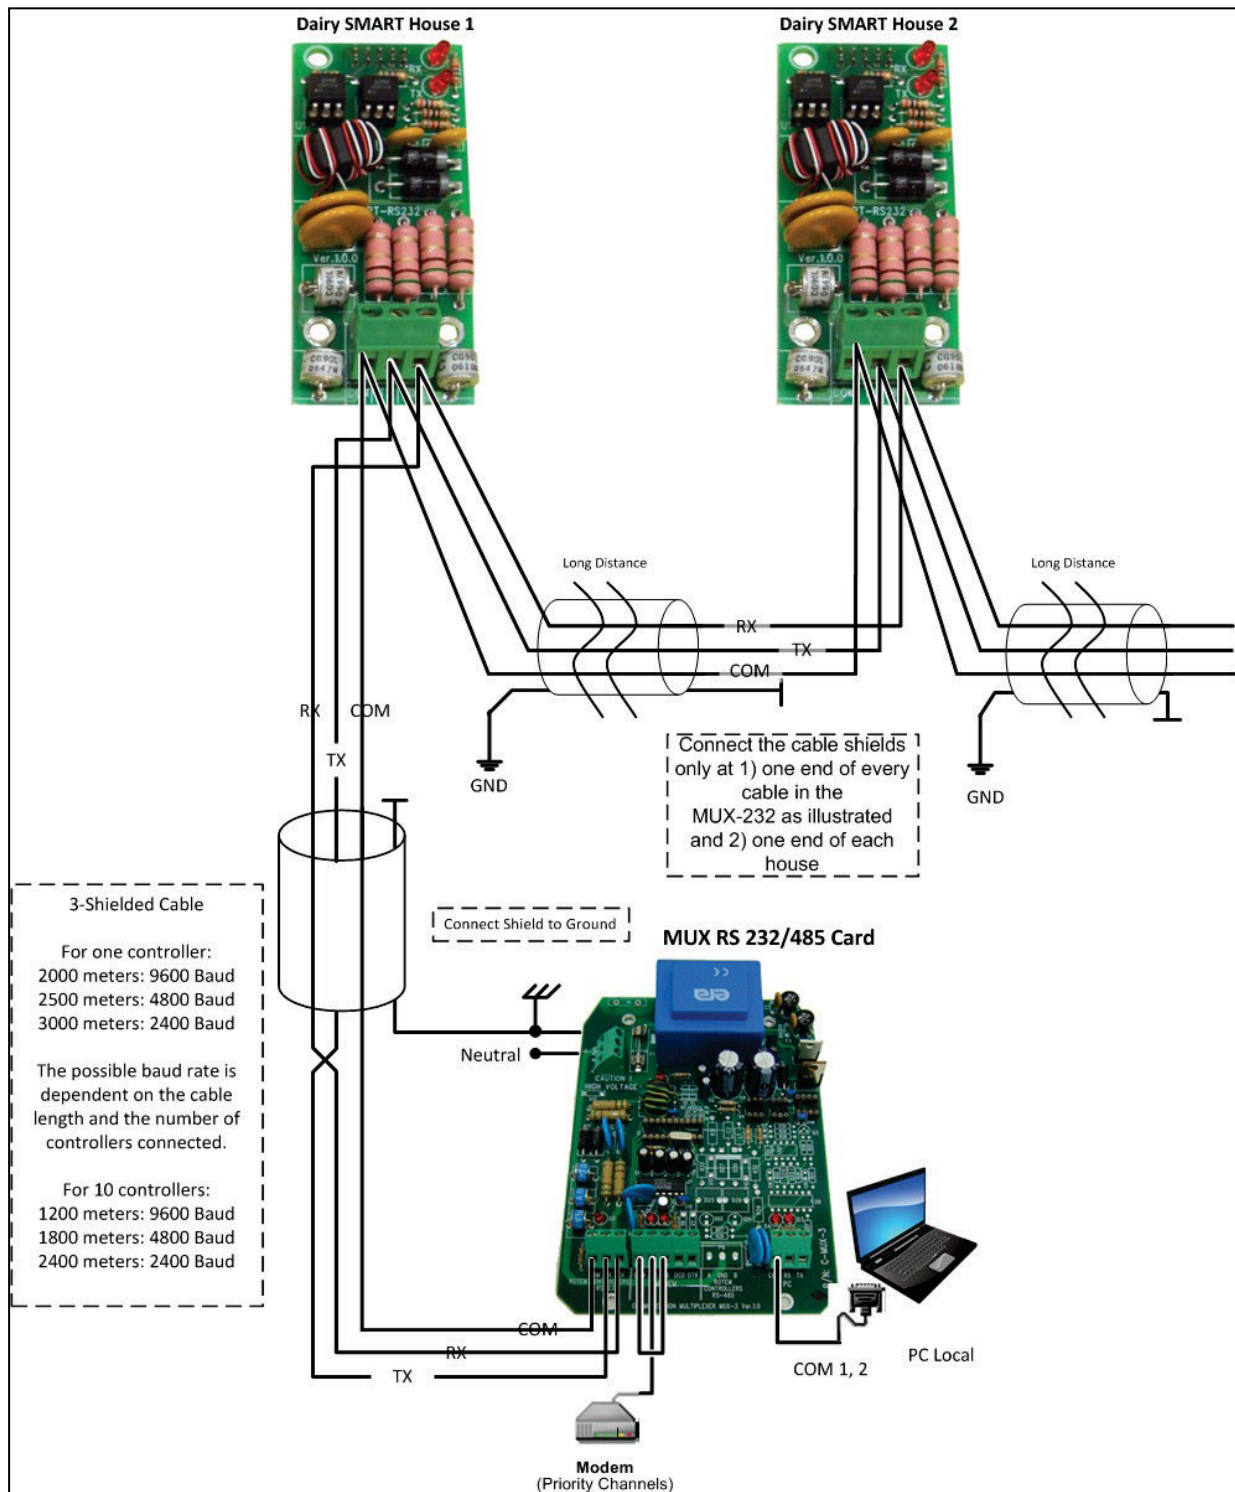
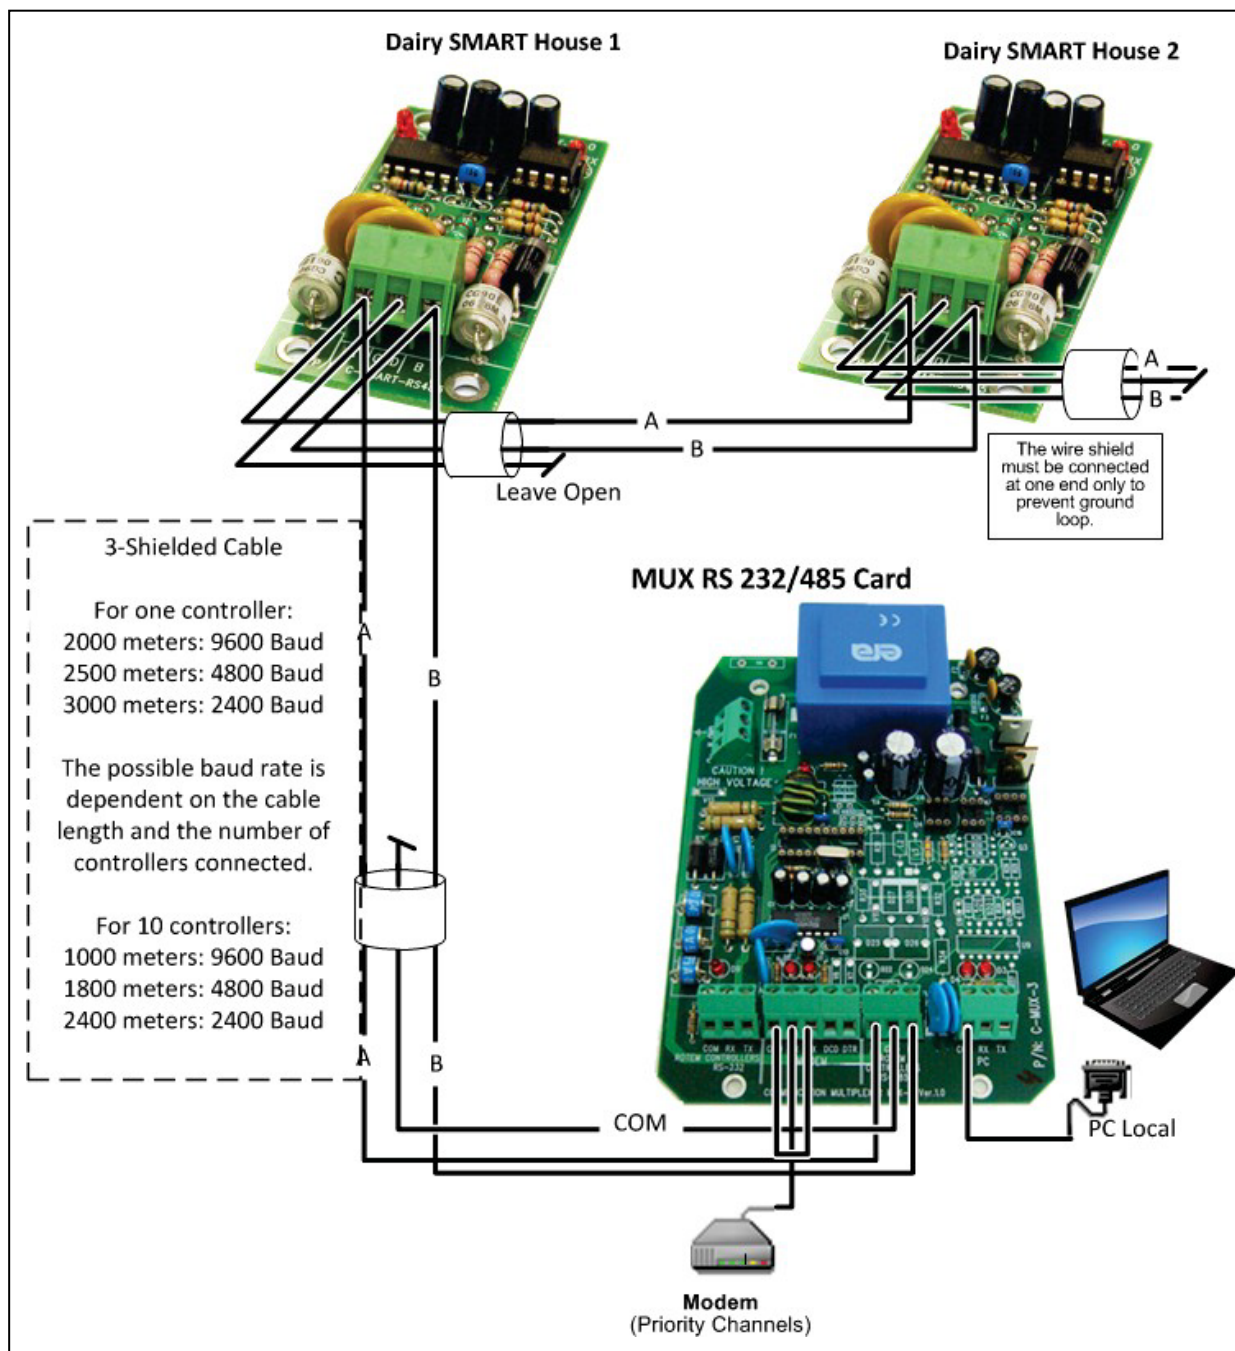

Figure 13: Dairy Smart Communication RS-232 Wiring Diagram
Figure 14: Dairy Smart Communication RS-485 Wiring Diagram
- Figure 13: Dairy Smart Communication RS-232 Wiring Diagram
- Figure 14: Dairy Smart Communication RS-485 Wiring Diagram
All the remaining wiring to the main voltage section remains as illustrated in **Figure 13** and **Figure 14**.